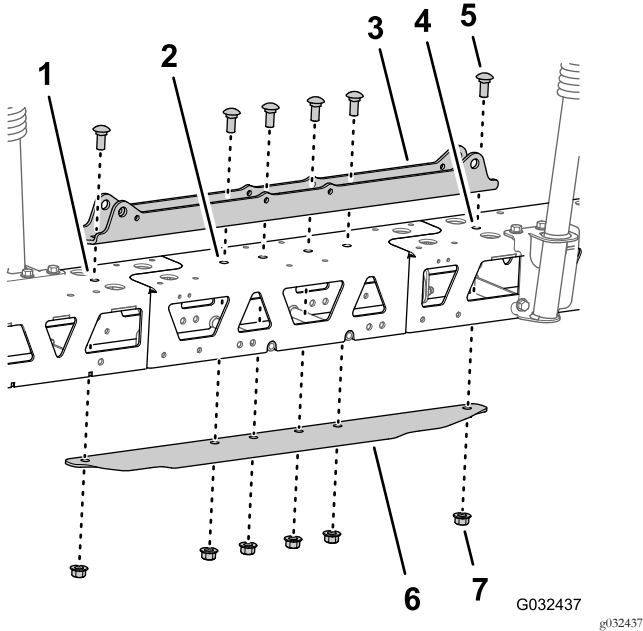

Figure 53
5. Align the holes in the cylinder mount with the holes at the centerline of the truss frame and center-boom extension (Figure 53).
6. Insert the tie plate into the truss frame and center-boom extension and align the hole in the tie plate with the holes at the centerline of the trusses and boom extension (Figure 53).
7. Assemble the cylinder mount, trusses, center-boom extension, and tie plate with the 2 carriage bolt (1/2 x 1-1/4 inches) and 2 flange locknut (1/2 inch) that you removed in step 2 of Separating the Center-Spray Section Trusses (page 24), and the 4 carriage bolt (1/2 x 1-1/4 inches) and 4 flange locknut (1/2 inch) from the GeoLink spray system finishing kit (Figure 53).